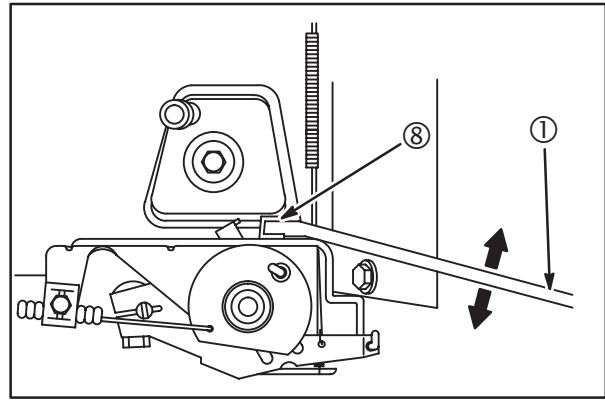

Fig. 45
10. Bend tang (8) with Tool #19352 (1) to obtain desired top no-load RPM, **Fig. 45**.